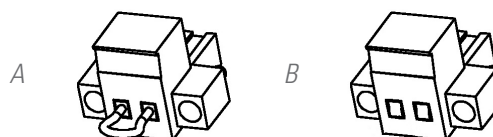

Fig. 14. Connector for external EPO.
- The device is dispatched from the factory with its EPO circuit set to closed (NC) by default. In other words, the UPS will cut the output power supply, emergency power off, when the circuit is opened:
- ☐ Either by removing the female connector from the socket where it is inserted. This connector has a cable connected as a jumper that closes the circuit (see Fig. 14-A).
- ☐ Or by pressing the button external to the device belonging to the user installed between the terminals of the connector (see Fig. 14-B). The connection on the button must be in the normally closed contact (NC), so it will open the circuit when activated.